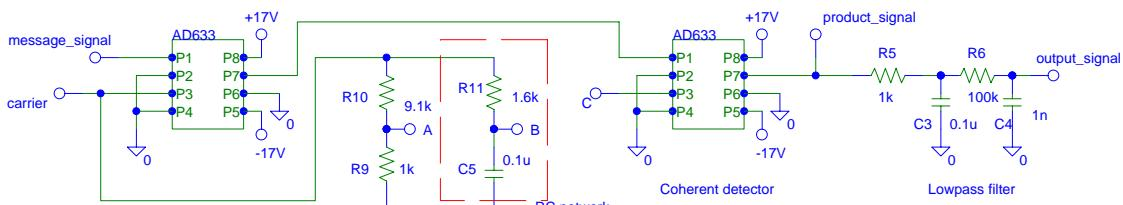

Fig. 3 Test circuit to observe the effect of a phase offset
1. From Equation (1), (a) obtain the expression for $x_c(t)$ [1] when $x(t) = A_x \sin(2\pi f_x t)$ and (b) plot [3] the DSB signal. The parameters are: $A_c = 1$ V, $f_c = 9$ kHz, $A_x = 5$ V, $f_x = 500$ Hz, (time span for the plot) $TS=4$ ms. [4 points total].
2. Equation (2) describes the spectrum of the DSB signal. Using the same function and parameters as above, (a) obtain the expression for $X_c(f)$ [1] and (b) plot [3] the one-sided spectrum in the frequency span $FS=20$ kHz, use $NF=-30$ dBV. [4 points total].
3. Equation (4) describes the product signal $z(t)$ and Eq. (5) its spectrum $Z(f)$. Using the same function $x(t)$ and parameters as before but changing $A_x = 2.5$ V, (a) obtain the expressions for $z(t)$ [1] and $Z(f)$ [1] and (b) create the corresponding plot [3] in time domain with $TS=4$ ms and the one-sided spectrum [3] in the frequency span $FS=20$ kHz and $NF=-30$ dBV. Assume there is no attenuation and set $a_c = A_c$. [8 points total]
4. During the lab, the phase offset θ of Eq. (6) will be introduced in the local carrier by the RC network of Fig. 3. The output of this circuit is node B. Compute the phase shift introduced by this circuit at $f = 10$ kHz. [Hint: Obtain the transfer function $H(f)$ of this circuit and $\theta(f) = \arctan(\Im[H(f)]/\Re[H(f)])$]. [3 points].
1. Keeping the power supply off, assemble the circuit of Fig. 3. Use FG1 as the message signal and FG2 as the carrier signal. Set the following parameters in FG1: Amplitude=10 V, Frequency=500 Hz, sine wave. For FG2: Amplitude=10 V, Frequency=10 kHz, sine wave.